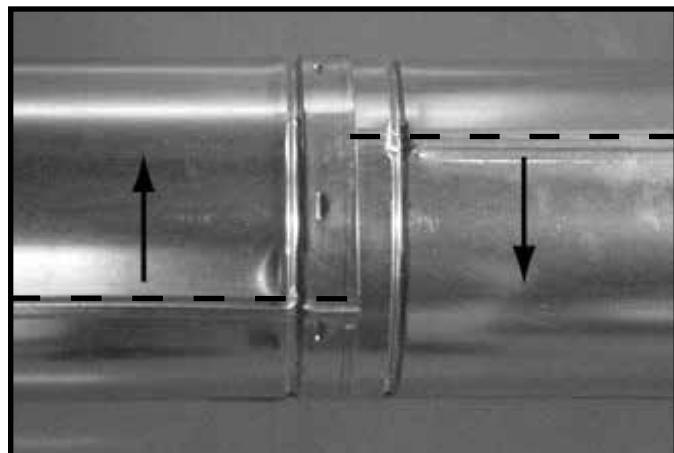

Figure 10.10 Rotate Seams for Disassembly
- Rotate either section (see Figure 10.10) so the seams on both pipe sections are aligned as shown in Figure 10.11.